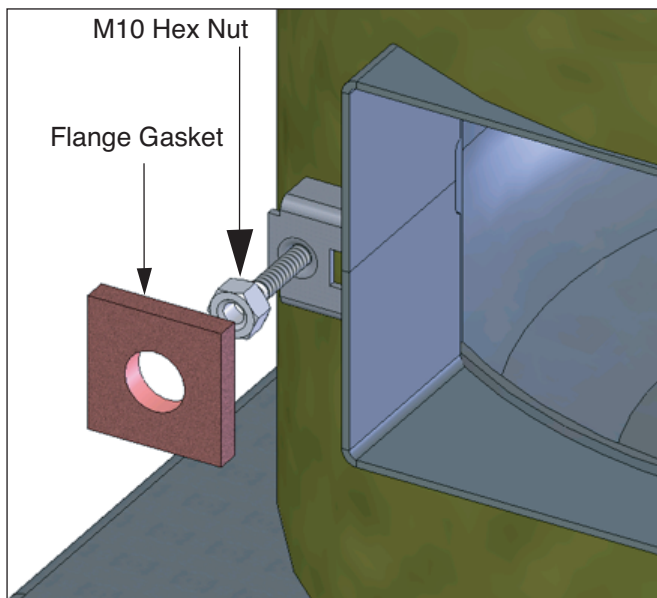

Fig. 6 : Flange Gasket Assembly
3. Place a Flange Gasket onto each stud. Ensure the edge of the gasket is aligned with the combustion chamber frame. Also ensure the gasket is fitted around the hex nut. See Fig. 6 and 7.